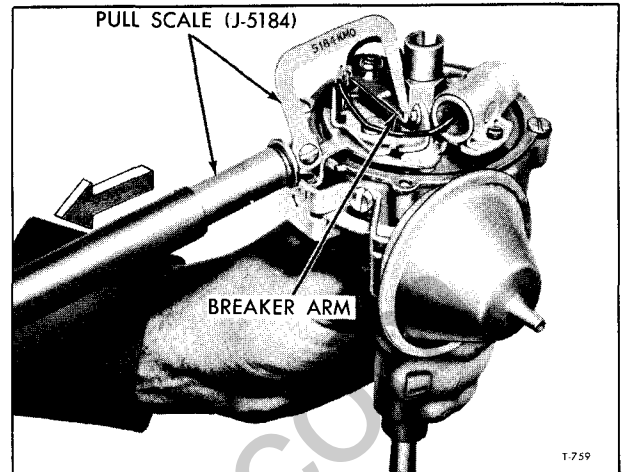

Figure 5—Checking Breaker Arm Spring Tension (V6 Engine)
4. Check and adjust points for proper alignment and breaker arm spring for proper tension (fig. 5). Use an alignment tool to bend stationary contact support if points need alignment.
NOTE: The contact point pressure must fall within specified limits. Weak tension will cause chatter resulting in arcing and burning of the points and an ignition miss at high speed, while excessive tension will cause undue wear of the contact points, cam and rubbing block. Breaker arm spring tension should be 19-23 ounces. The contact point pressure should be checked with a spring gauge. The scale should be hooked to the breaker lever and the pull exerted at 90 degrees to the breaker lever as shown in figure 5). The reading should be taken just as the points separate. The pressure can be adjusted by bending the breaker lever spring. If pressure is excessive, it can be decreased by pinching the spring carefully. To increase pressure, the lever must be removed from the distributor so the spring can be bent away from the lever. Avoid excessive spring distortion.